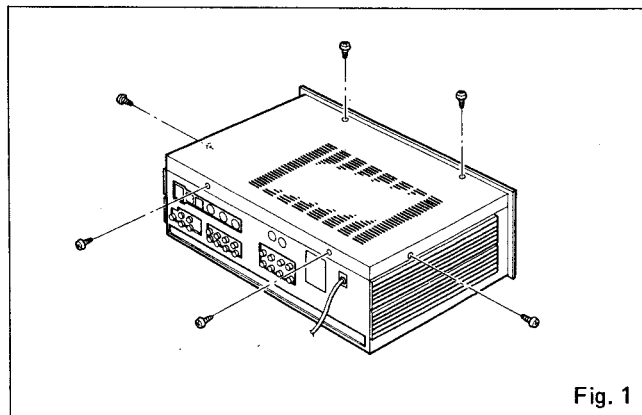

Fig. 1
- 1) Remove the six screws on backside as shown in Fig. 1.